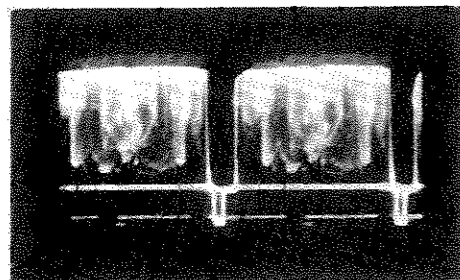

Figure 1A. Horizontal Sync Pulse
- b. Carefully rotate the SYNC vernier control until the pattern shown in Figure 1A is obtained on the oscilloscope screen. NOTE: To avoid distortion of the pattern, always use the minimum setting of the SYNC vernier necessary to hold the pattern still.